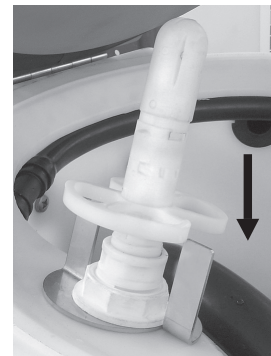

Fig 30
- 2 To rinse out chemical containers, the wings need to be rotated until the gap aligns with the device, allowing the nozzle to be pushed down with the inverted container, and the rinse function to be activated (See Fig 30). Empty Granni Pot of dilute chemicals.